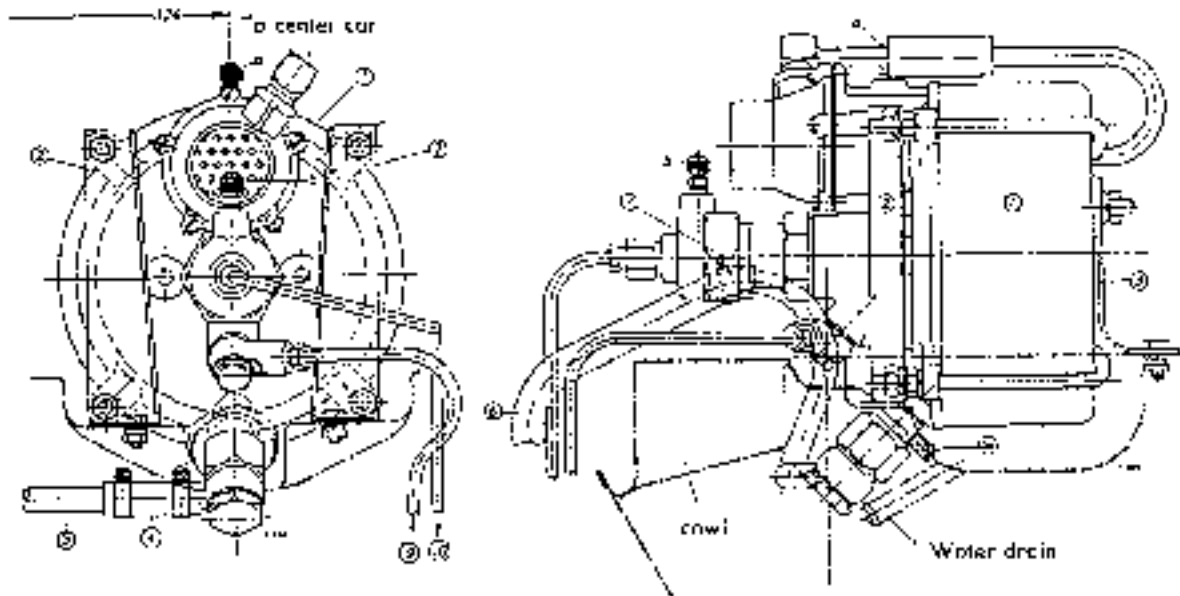

Fig. 42-14/1
1. Unscrew the hollow screw of the annular nipple for the vacuum line (5) working from the interior of the car. Detach the hose clip at the annular nipple and remove the nipple from the connecting hose (4) (Fig. 42-14/1).
3. Disconnect the cables of the stop light switch at the annular nipple and disconnect the brake line (10) (Fig. 42-14/1).
4. Disconnect the brake line (9) on the power brake. Unscrew the hexagon nuts fixing the power brake to the front brackets (2) from the interior of the car and remove together with lock washers and washers (see Fig. 42-14/1).
5. Unscrew the hexagon nut, attaching the power brake to the rear bracket (3) and remove together with lock washer and washer.
6. Remove the power brake upward and unscrew the two front brackets (?) from the power brake (see Fig. 42-14/1).